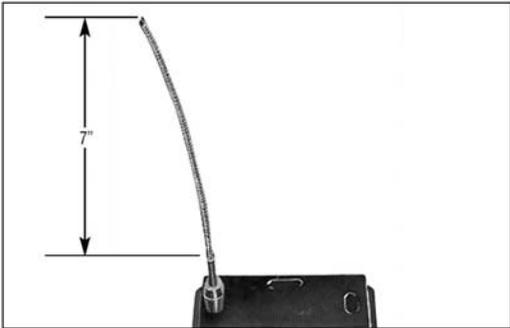

Figure 5
Score the outer insulation seven (7) inches from the end of cable. Remove the jacket to expose the metal braid. See Figure 5. **CAUTION: When removing the outer jacket, be careful not to damage the braid or the base cable insulation.**